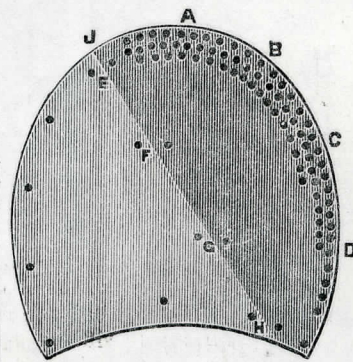
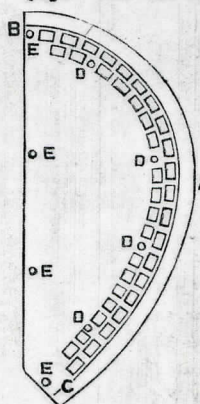
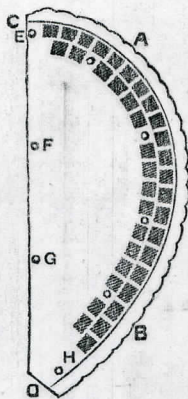
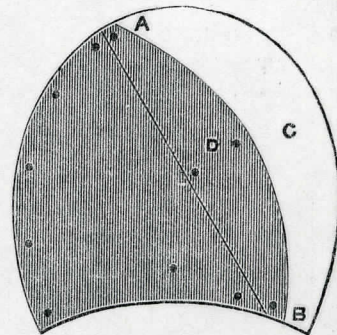

Fig. 2.—New Half Heel with Rivets to Resist Wear.
Fig. 3.—Half-Heel Piece Holed and Hammered.
Fig. 8.—Half-Heel Piece Bradded.
Fig. 10.—Heel Prepared for Half-tip.
half of it, which can be replaced with any corner of hard sole leather that would be almost useless for any other purpose. To remove half of the top-piece, cut it across at *B C*, and should the lift be worn, saw or cut that through as well at *D E*; tack a piece of leather on to take the place of the worn piece of lift, putting the tacks in at *F* and *F*. Then trim it round, and put some odd corner of hard sole leather on in like manner, to take the place of the worn part of the top-piece. Trim this also, and nail it as shown in Fig. 2. In this case, four of the rivets
from *J* to *H* (Fig. 2); hold it with two fingers of the left hand quite firm at *r* and *g*; then with the right hand smooth it down over the edge from *J*, passing *A*, *B*, *C*, and *D* on to *I*; this will leave a mark on the paper. Cut out to this mark, and it will give a good pattern of a half-heel piece, as Fig. 3, without the outside line *A*. To this cut another pattern out of stiff cardboard, as it will very often be wanted for use.
When leisure occurs cut sole leather to pieces of this pattern, leaving $\frac{1}{4}$ in. on all round the curved side *A* (Fig. 3), to give room for nailing. Here it will be necessary to explain how to make an awl for this purpose, as, unlike all other awls, such awls cannot be bought ready for use, but it is a tool that saves much time and disappointment.
The piece of leather in Fig. 3 should be of good
irregular-looking than shown in Fig. 3; but this does no harm, for so long as the awl is held in the same position for each hole, the brads are sure to follow into their proper places.
It has been stated above that the awl should be of the same shape as a French brad, which is shown in Fig. 7; but there is another kind of brad of similar shape, only it is much shorter and a little stouter, as shown in Fig. 6. This is called a cut-bill, and it is this brad that must be used to put into the holes made in Fig. 3. Let the length of the brads be as nearly equal to the substance of the leather as possible; lay the leather upon a piece of wood, and knock the brads in the square holes one at a time. When they are all in, take the leather off the wood, and lay it on the lap-iron with the points of the brads upwards. These, if they are not too far through, can be clenched and made smooth by tapping with a hammer; but if they are through far before trying to clench them, they must be cut off with a pair of cutting tongs close to the leather.
This done, the half-heel is ready for use. Several may be prepared, and then all that is necessary to half-heel the boots is to cut the top-piece across, as shown, from J to H (Fig. 2), take away the worn part, and replace it with the new piece. Fig. 8 shows where it should be bradded, and also the places for eight $\frac{1}{2}$ in. rivets; these are all that is necessary to hold the piece on, and will allow it to be taken off easily when another heel-piece is wanted.
It will be found that the small margin, A B (Fig. 8), after the brads have been put in, has become somewhat contracted. This is why the extra $\frac{1}{4}$ in. of leather was left, for it would break if nailed close to the edge. Now
you can trim up the edge of the piece to the edge of the heel, cutting close to the brads, on the line c to D, and finish in the ordinary way. The first time the boots are half-heeled, it will be necessary to put four rivets in the old leather at E, F, G, and H (Fig. 8), to keep it from ripping off.
9), price $1\frac{1}{2}$ d. Put one on the heel in its proper position, mark round the inside from A to B (Fig. 10), and cut away the part, c, that the tip is going to replace. Lay the tip on the lap-iron face down, and hollow it in the centre, that it may grip well at both ends, then dip it in water to soften the leather plugs, and put it on the heel. With a fine awl make a hole through the centre of each plug, and put a long rivet, which would be supplied with the tips, in each hole. Smooth it up with a file where rough, and you have a new lease of heel wear for $1\frac{1}{2}$ d., and a very little trouble. If it is found difficult to cut the curved line to fit the tip from A and B, cut the heel straight across, as in Fig. 2, from J to H, and after the tip is on cut a small piece, as D (Fig. 10),